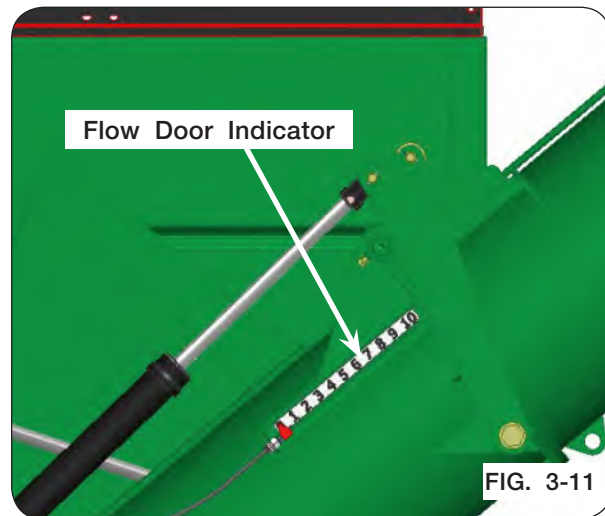

FIG. 3-11
4. Open flow control door to desired unloading rate. Numbers on the auger tube provide a point of reference for operator convenience. (FIG. 3-11)